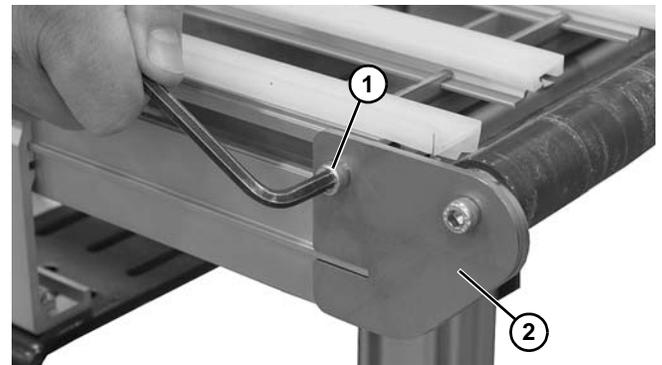

Figure 79
- On both sides of conveyor, remove fastening screw (Figure 79, item 1).
- Remove idler tail (Figure 79, item 2) from conveyor.